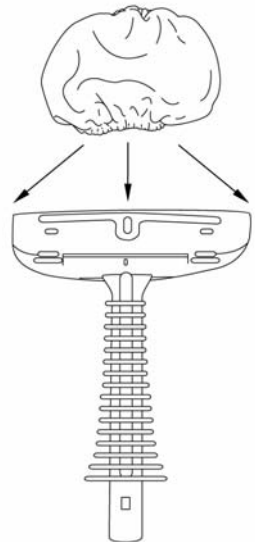

FIGURE 7
1. Stretch Cloth Cover around Wide Nozzle (FIGURE 7). Cloth Cover should fit snugly enough to stay in place while steaming.